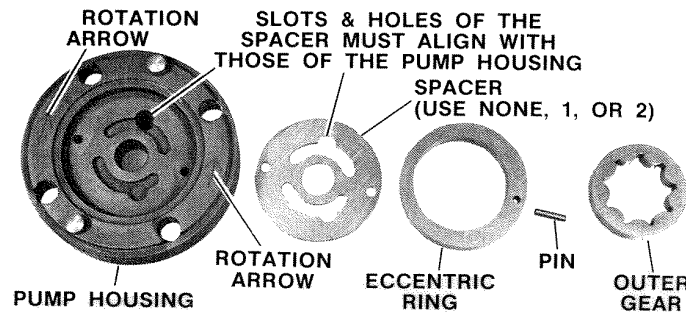

Figure 2-1. Pump-Housing Assembly
1. See Figures 2-1, 2-2, and 2-3.